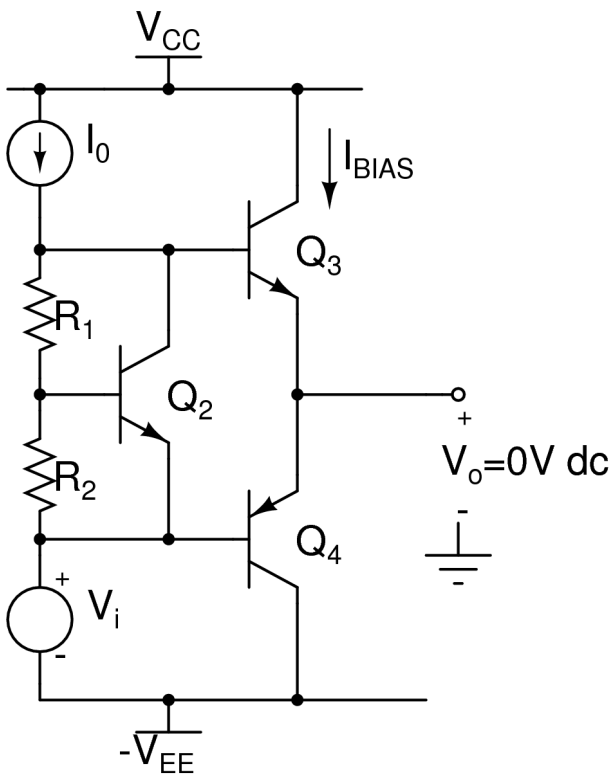

Figure 3
2. Consider the circuit shown in Figure 3. Assume that Q_2 has a saturation current of I_S , while Q_3 and Q_4 have a saturation current of nI_S . Neglect the portion of I_0 flowing through the resistors, and neglect all base currents. Determine the expression for bias current I_{BIAS} in terms of other circuit parameters.